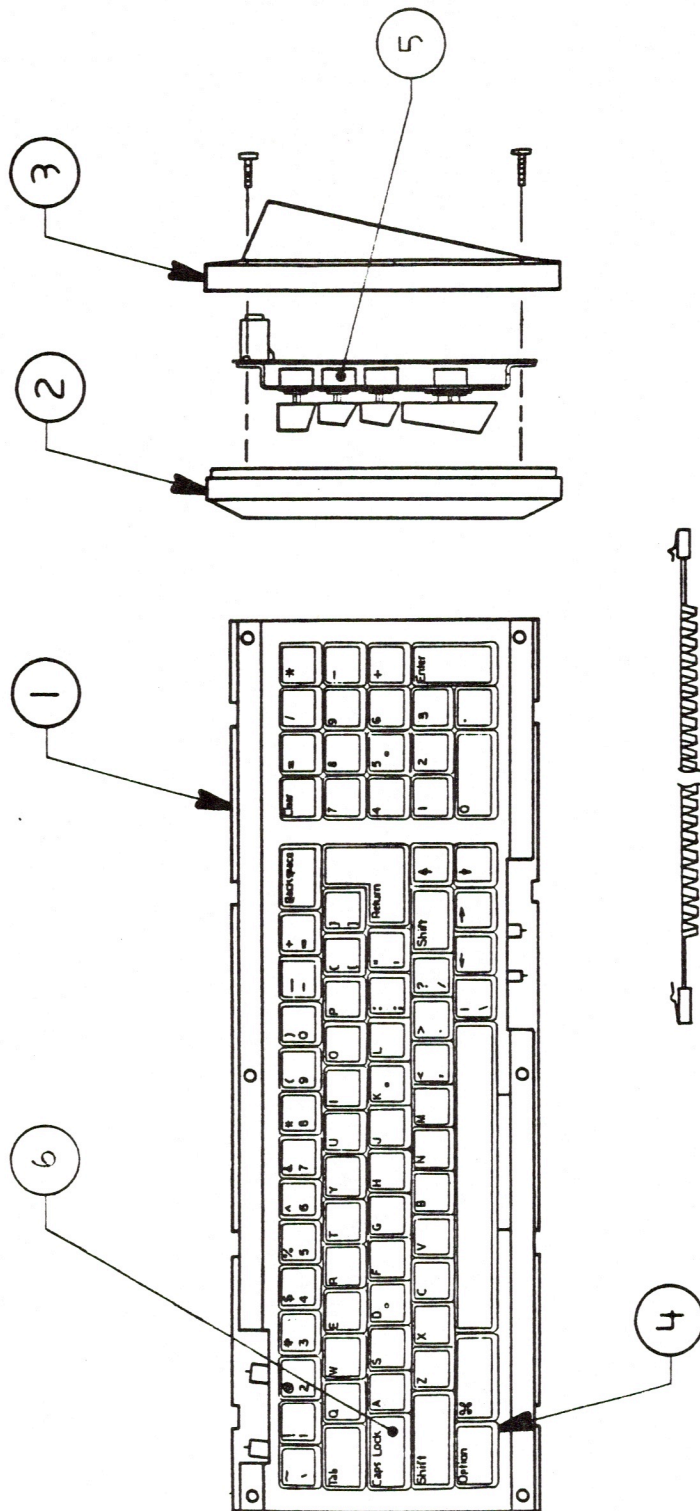

FIGURE 8
Note: Keycaps are not available for international keyboards. For Macintosh Plus keycap set, see Figure 8, "Macintosh Plus Keyboard Assembly."
□ MACINTOSH PLUS – KEYBOARD ASSEMBLY (Figure 8)